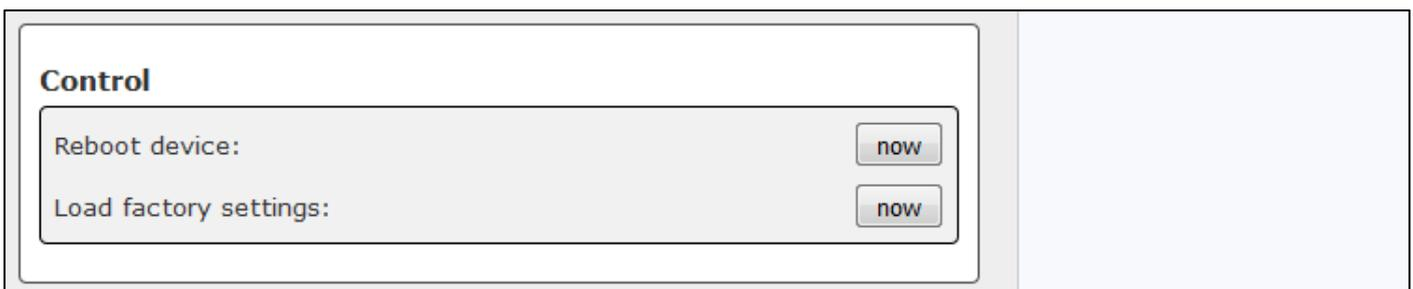

Fig. 64: Global Settings – Control
2. Click the "Now" button in the field "Load factory settings" to restore factory settings (see Fig. 64).
2. Click the "NOW" button in the field "Reboot device" in the last block of the web page to reboot the device (see Fig. 64).